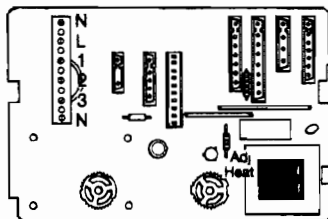

Fig. 21
The terminal block is easily visible on the left of the printed circuit board (fig 21)
5.7.4 Pass the cable through the cord anchorage and connect it so that should the cable slip the anchorage the current carrying conductors become taut before the earthing conductor. (fig 21)
Refer to fig 23 to determine pressure for the heating output you need. Use a screwdriver to adjust the potentiometer (fig 21) until the required pressure is indicated on the gauge. Once this pressure has been fixed it should be indelibly recorded on the label provided and affixed next to the data badge. This is to ensure that the burner can be reset when any service operation involves alteration of burner settings.